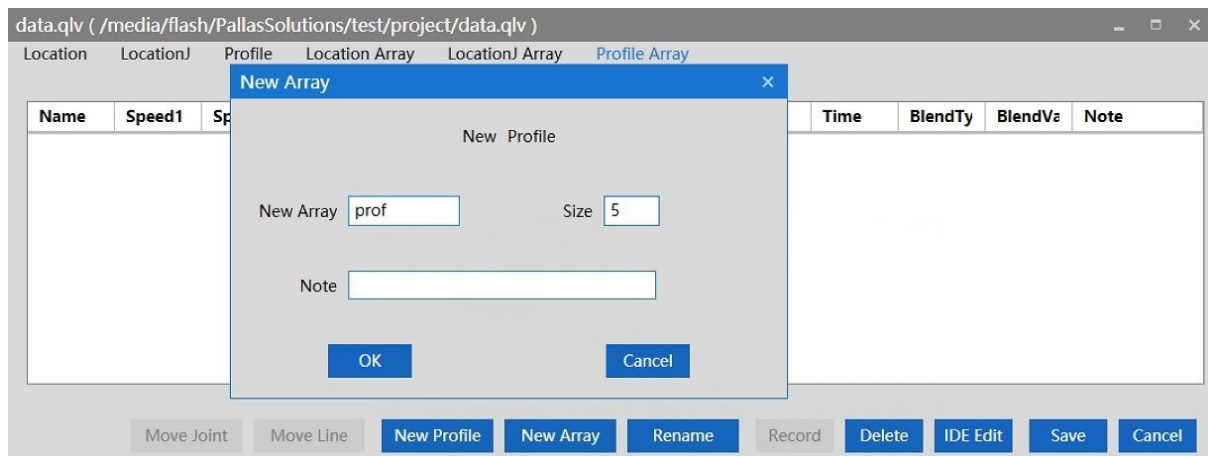

Figure 6-40 New Profile Array
**Step 6** New Profile Array; Click "New Array" in "Profile Array", and the "New Array" interface will pop up. Enter the array name and array length, and click "OK", as shown in Figure 6-40.